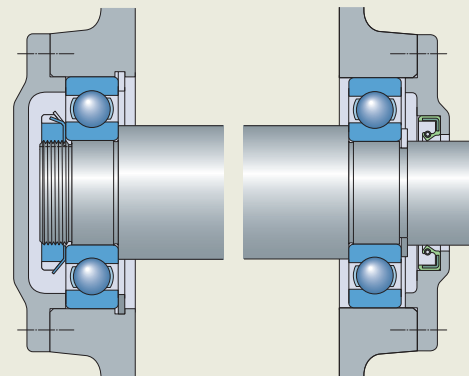

Fig. 11
- self-aligning ball bearings or spherical roller bearings (fig. 11) for both bearing positions